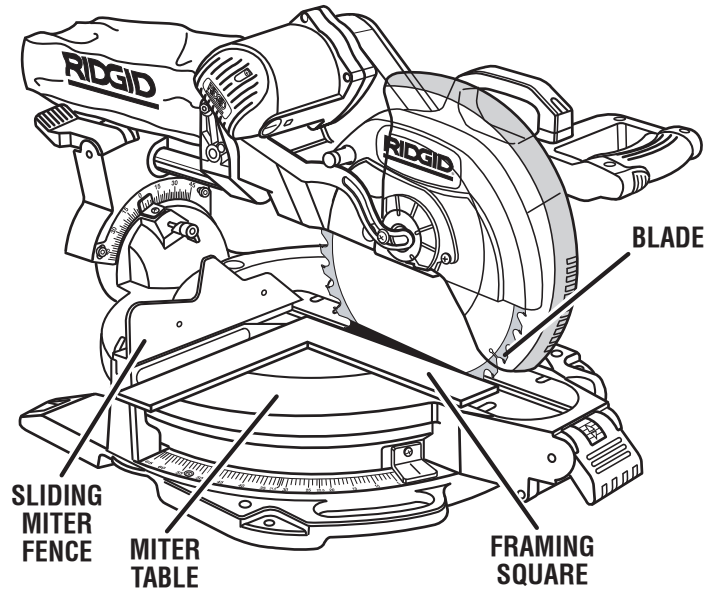

Fig. 21
- If the front or back edge of the saw blade angles away from the square as shown in figures 21 and 22, adjustments are needed.